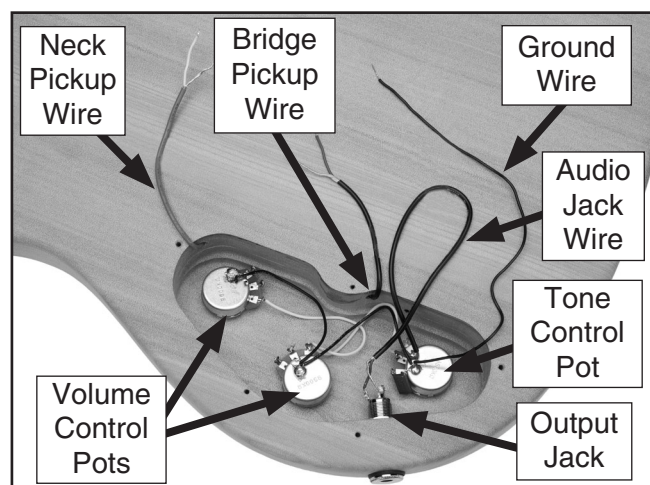

Figure 19. Wires threaded through control cavity.
3. Insert the output jack into the hole in the end of the body (**Figure 19**) and secure it with the included hex nut.